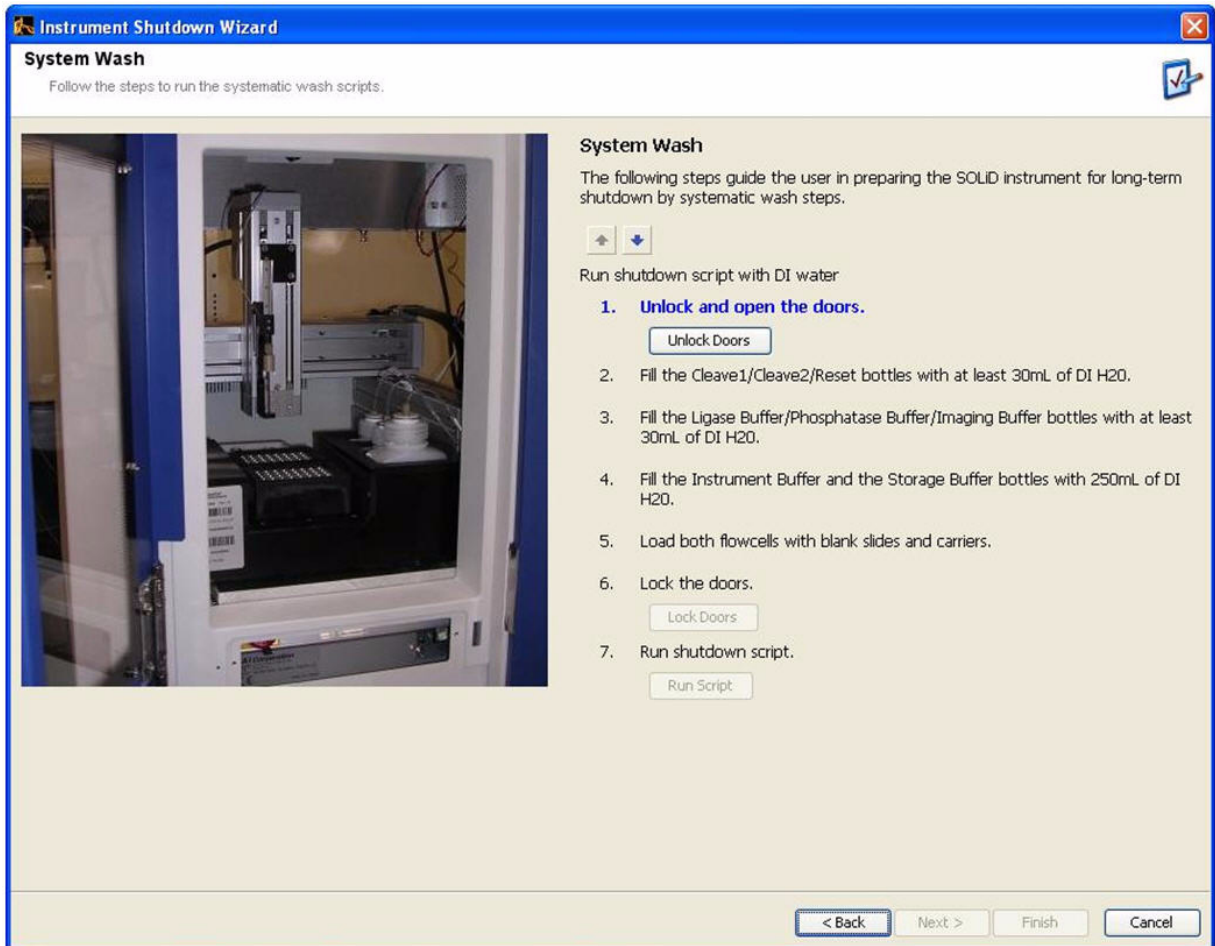

Figure 67 Complete the actions in the first System Wash screen.
3. In the System Wash screen, click **Unlock Doors** (Figure 67).